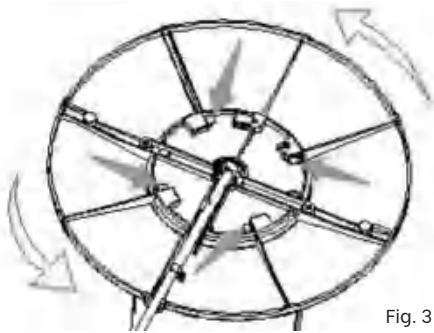

Fig. 3
3. Rotate the assembled base plate counterclockwise to engage the base plate locking tabs with the heater as shown in (Fig 3)